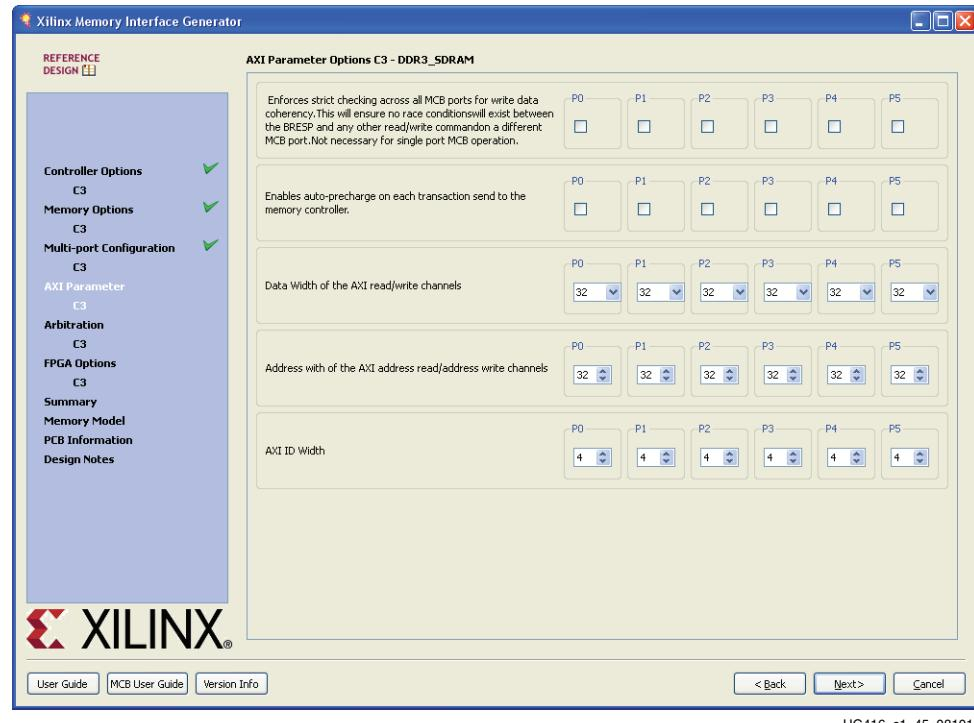

Figure 1-28: Selecting AXI User Interface Parameters
For designs using the AXI user interface option, a page appears to set the parameters for each AXI port (see Figure 1-28).
10. Choose whether to enforce strict checking for write coherency on each port. This is recommended for designs with more than one port. Choose whether to enable auto-precharge for each AXI port. Select the Data, Address, and AXI ID width for each port (see Figure 1-28). Click **Next**.